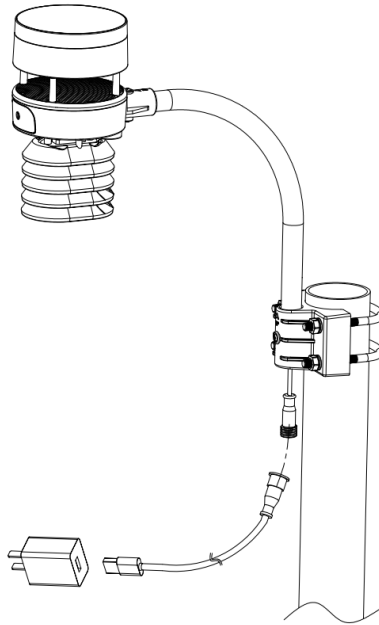

Figure 10: Sensor package mounting diagram 5-5
5. If optional extension cord is added, connect the cord to the connector and insert the USB port into the AC adaptor as Figure 10 show: